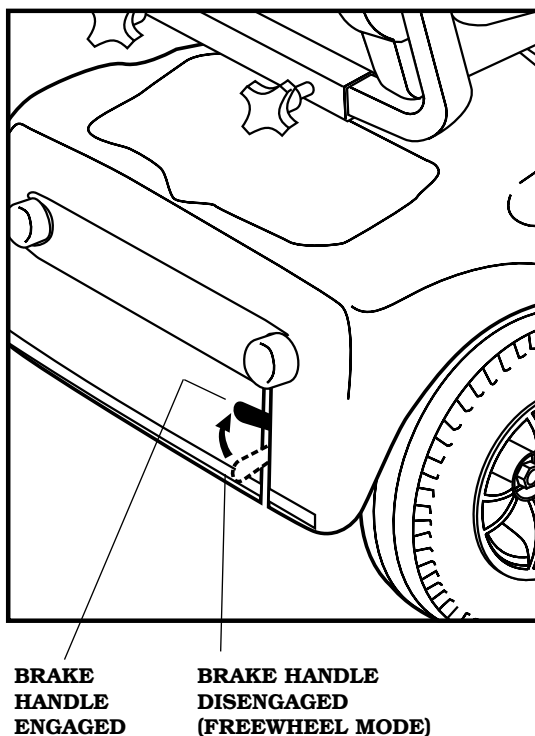

FIGURE 32. BRAKE HANDLE
1. Move the brake handle to the engaged “up” position. See figure 32.